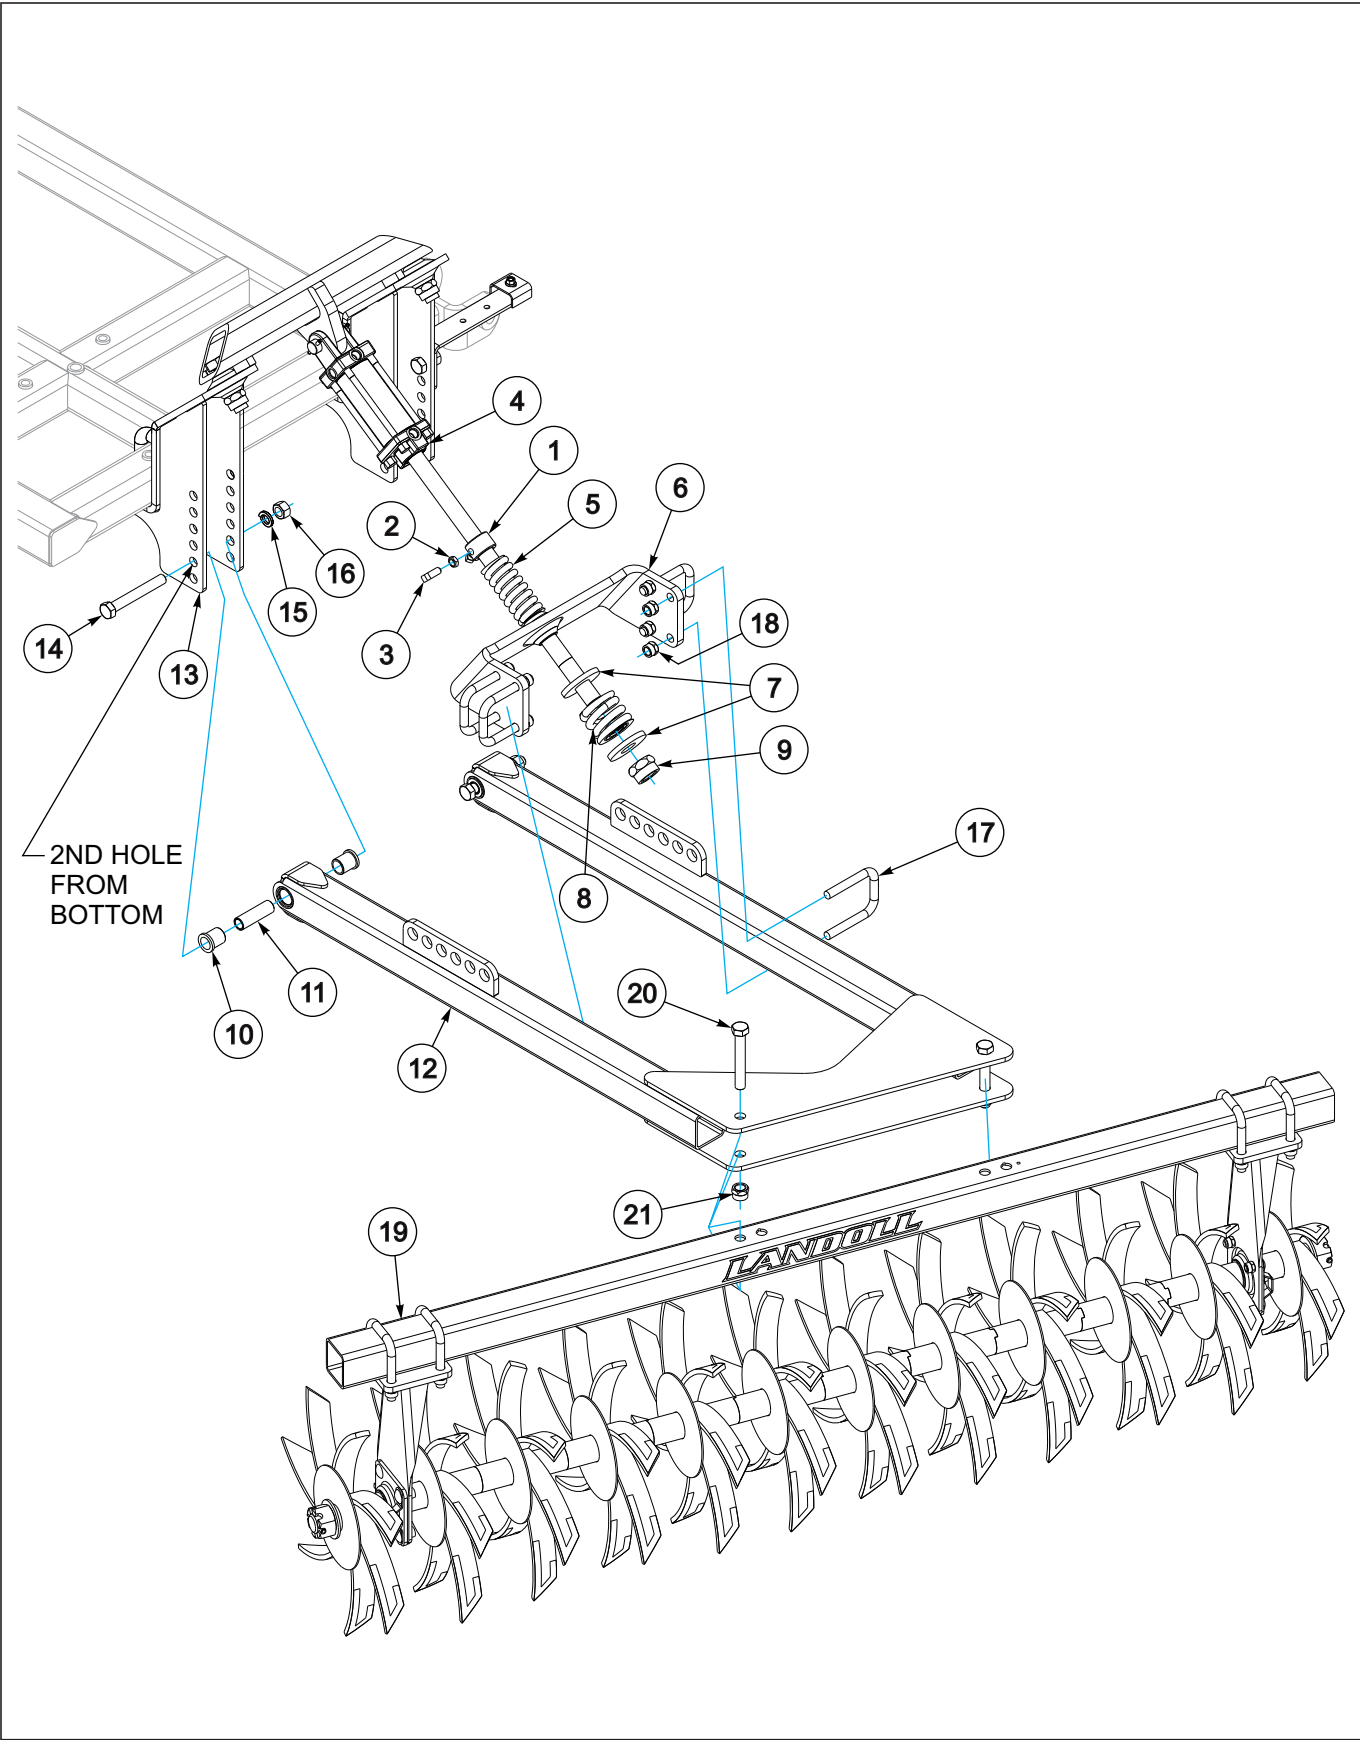

Figure 3-14: Hydraulic Bracket & Treader Assembly Hydraulic
3. Slide locking collar (1) over cylinder rod (4), secure with 1/2-13 jam nut (2) and 1/2 x 1-1/4 sqhd set screw (3), **See Figure 3-14**. Slide 1.313 id x.468 wire x 5 x comp spring (5), lower treader mount (6), hydraulic treader washers (7), 1.28 id x 2-5/8 comp spring (8) secure with 1-1/4-7 lock nut (9).
4. Install bearing flanges (10) and treader hinge bushings (11) in both tubes of treader arm weldments (12). Align holes of treader arm weldments with second hole from bottom of treader arm mounts (13). Install 3/4-10x5-1/2” hex bolts (14), 3/4 lock washers (15) and 3/4-10 hex nuts (16).
5. Raise treader arm weldments (12) until lower treader mount (6) slides between treader arm weldment (12), secure with 5/8-11 x 3-11/16 x 4-5/8 u-bolts (17) and 5/8-11 lock nuts (18).